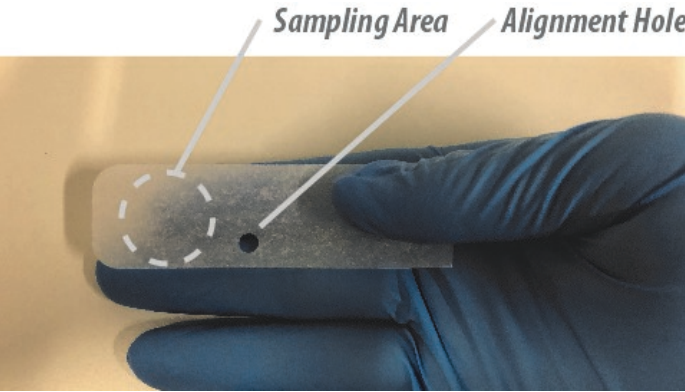

Figure 15: Sampling Swab
1. Hold the Swab as illustrated in Figure 15. Ensure the alignment hole is as illustrated in Figure 15.